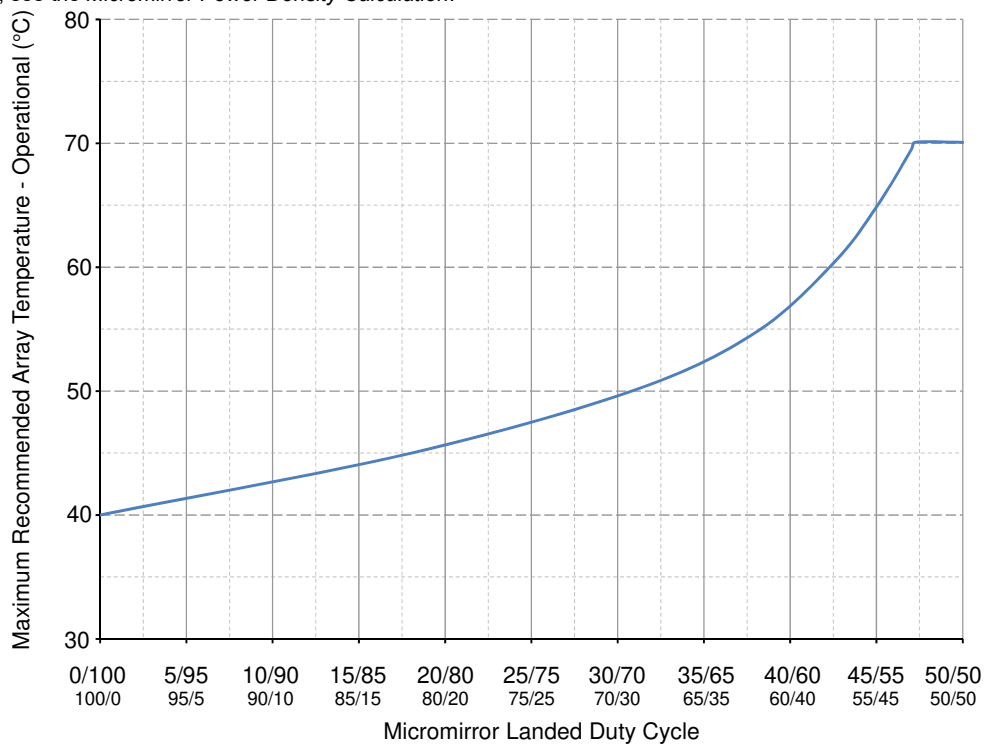

图 5-1. Maximum Recommended Array Temperature—Derating Curve
- (11) Per 图 5-1, the maximum operational array temperature should be derated based on the micromirror landed duty cycle that the DMD experiences in the end application. Refer to the 节 6.8 for a definition of micromirror landed duty cycle.
- (12) Long-term is defined as the usable life of the device.
- (13) Short-term is the total cumulative time over the useful life of the device.
- (14) The locations of thermal test points TP2, TP3, TP4, and TP5 shown in the *DMD Thermal Test Points* are intended to measure the highest window edge temperature. For most applications, the locations shown are representative of the highest window edge temperature. If a particular application causes additional points on the window edge to be at a higher temperature, test points should be added to those locations.
- (15) Temperature delta is the highest difference between the ceramic test point 1 (TP1) and anywhere on the window edge as shown in *DMD Thermal Test Points*. The window test points TP2, TP3, TP4, and TP5 shown in *DMD Thermal Test Points* are intended to result in the worst case delta temperature. If a particular application causes another point on the window edge to result in a larger delta in temperature, that point should be used.
- (16) The average over time (including storage and operating) that the device is not in the 'elevated dew point temperature range'.
- (17) Exposure to dew point temperatures in the elevated range during storage and operation should be limited to less than a total cumulative time of CT_{ELR} .
- (18) The maximum marginal ray angle of the incoming illumination light at any point in the micromirror array, including pond of micromirrors (POM), should not exceed 55 degrees from the normal to the device array plane. The device window aperture has not necessarily been designed to allow incoming light at higher maximum angles to pass to the micromirrors, and the device performance has not been tested nor qualified at angles exceeding this. Illumination light exceeding this angle outside the micromirror array (including POM) will contribute to thermal limitations described in this document, and may negatively affect lifetime.
- (19) The maximum allowable optical power incident on the DMD is limited by the maximum optical power density for each wavelength range specified and the micromirror array temperature (T_{ARRAY}).
- (20) To calculate, see the *Micromirror Power Density Calculation*.